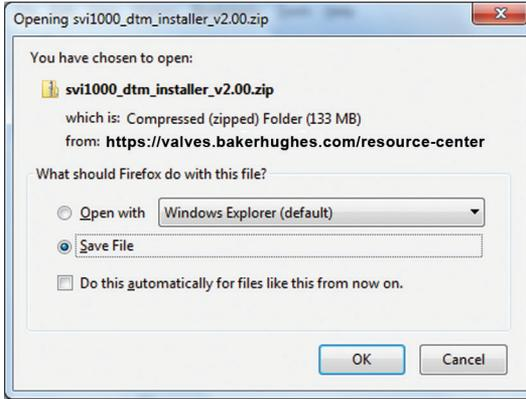

Figure 29 - Opening Dialog
2. Select **Download** below SVi1000 DTM and Figure 29 appears.